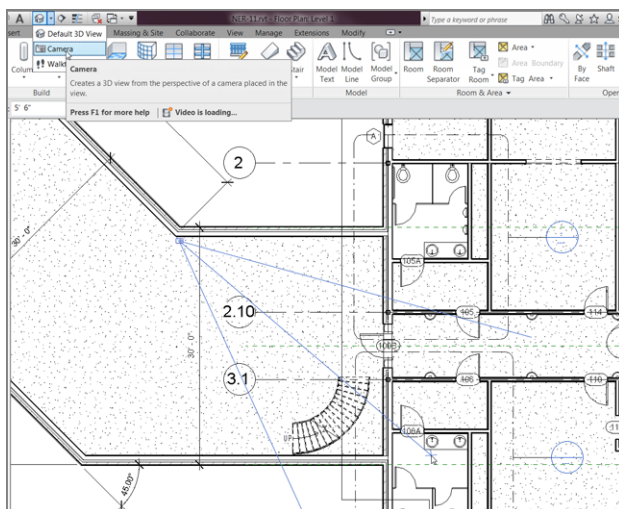

FIGURE 10.47: Adding the perspective view
3. Pick the first point shown in Figure 10.47.
4. Pick the second point shown in Figure 10.47.